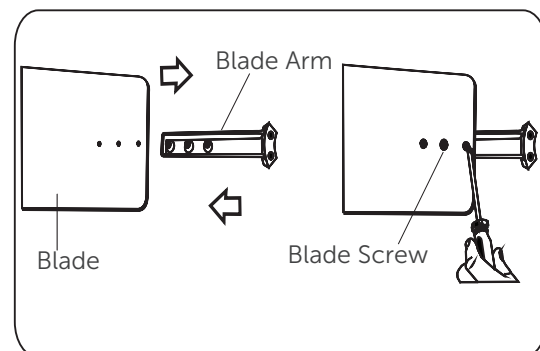

Fig. 7
7. Assemble blade arm to blade with blade screws (Fig. 7).